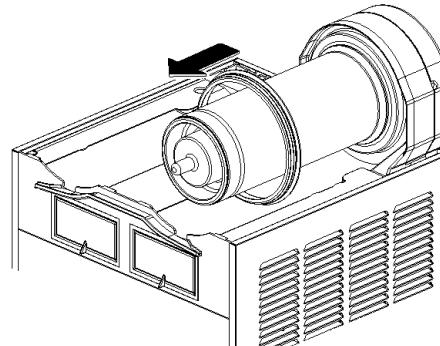

figure 10
- 4** Remove the bowl gasket from its seat (see figure 10).